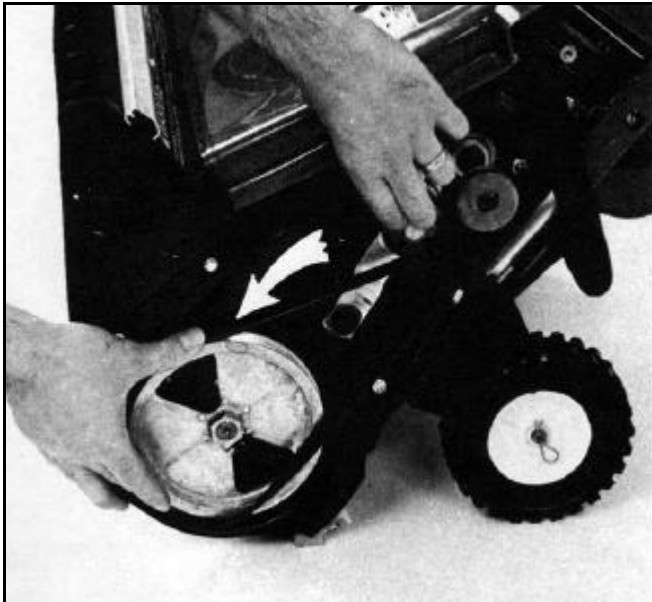

Figure 61
6. After the belt is started around the impeller pulley, pull the idler up and rotate the impeller pulley forward allowing the belt to roll on (Figure 61).